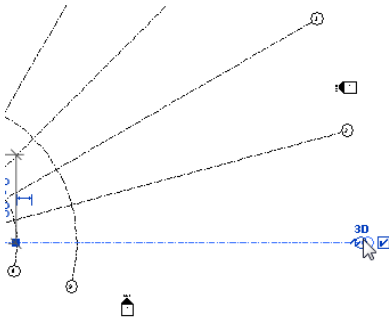

Figure 3-62 Moving the cursor toward the endpoint
1. To start resizing, select the first grid line of the project and then move the cursor toward its endpoint near the grid bubble, as shown in Figure 3-62.